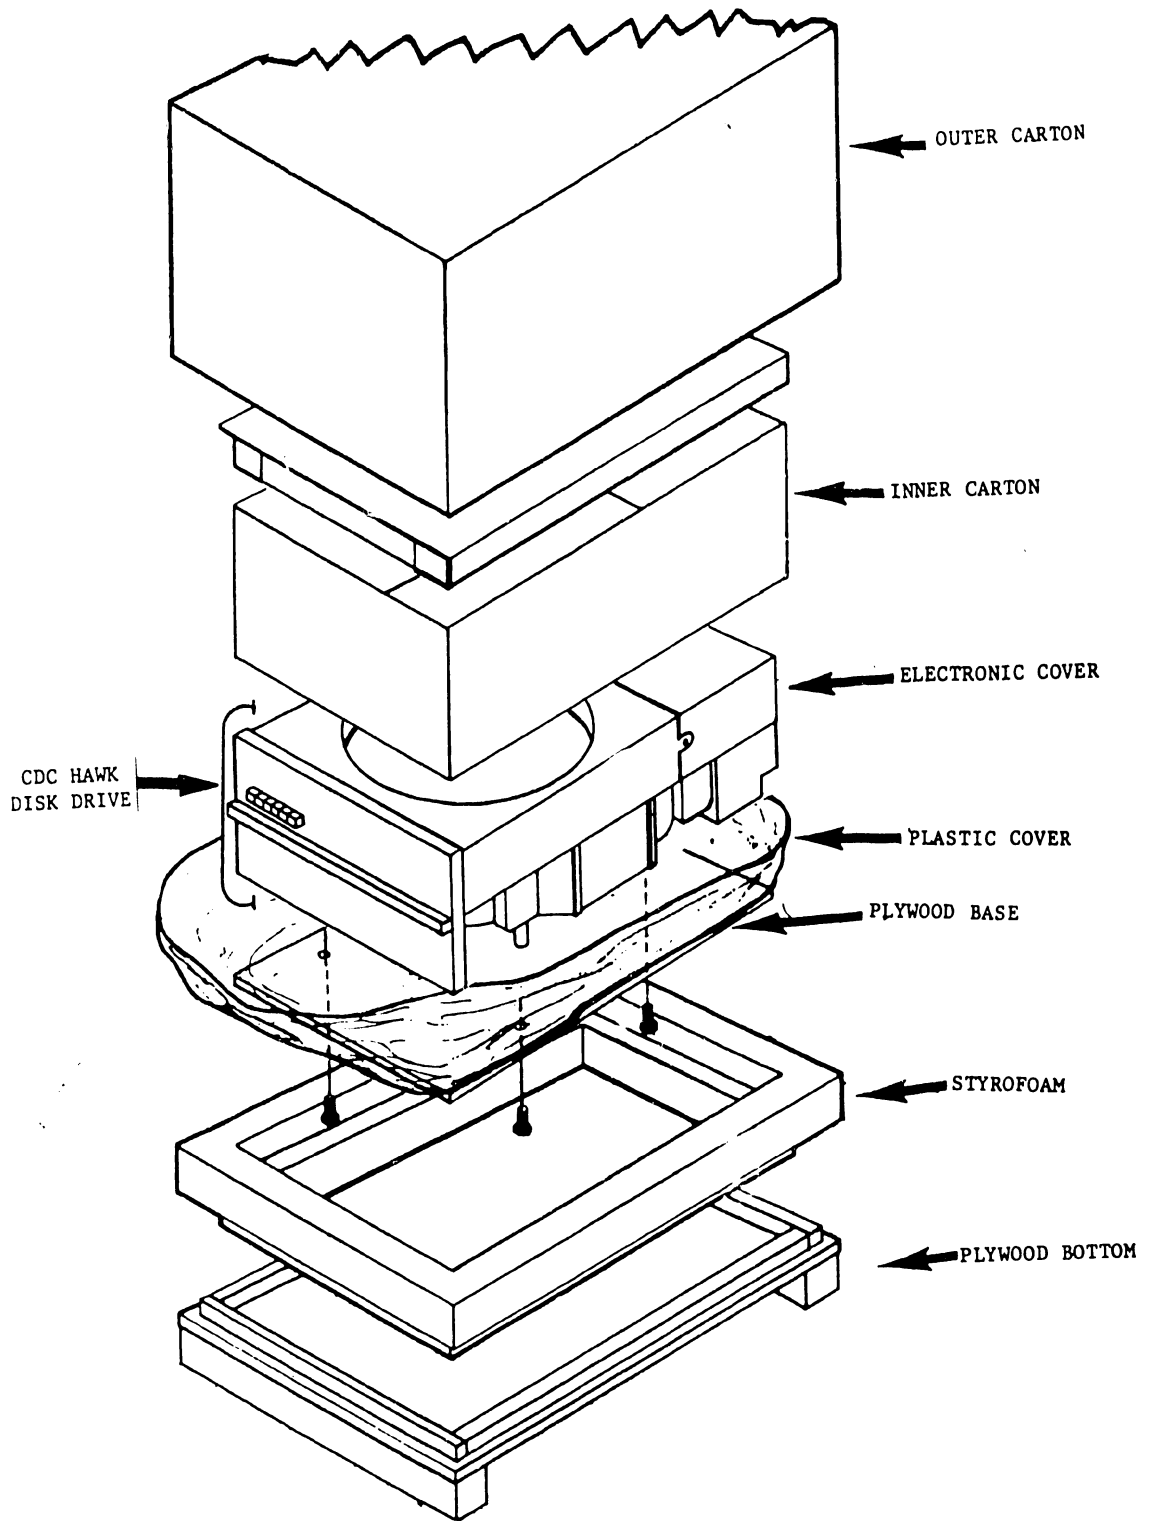

FIGURE 2-1 PACKAGING FOR HAWK DISK DRIVE (Without Lower Furniture Assembly)
- C) The most common packing method is detailed in Figure 2-1. Reference this figure and remove the drive from packing container. The packing material should be retained for possible future use.